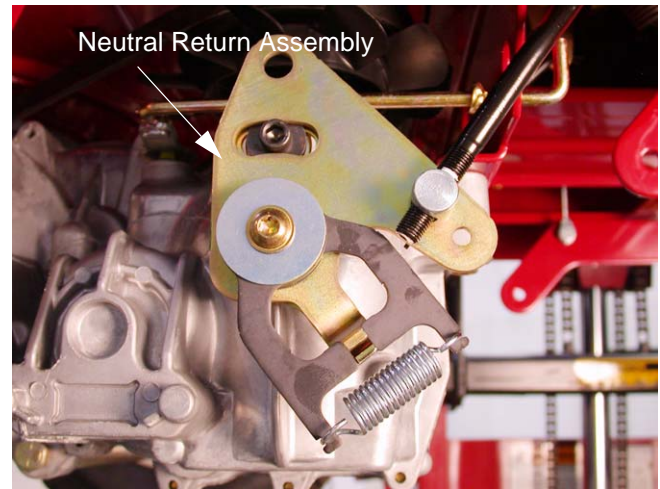

Figure 10.1
- 10.1. Begin to adjust the steering by confirming that both hydros are correctly adjusted for neutral control. See Figure 10.1.